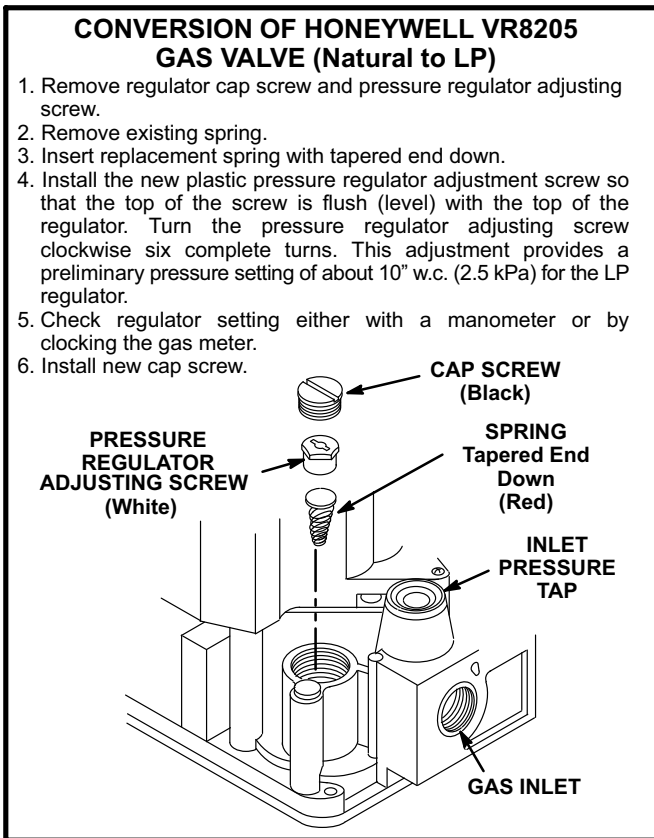
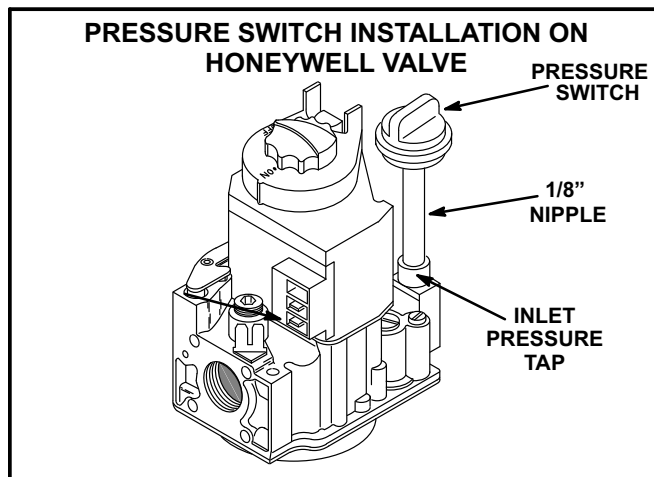

FIGURE 2
FIGURE 6
- 5 - Install gas valve conversion kit. Refer to manufacturer's instruction packed in valve conversion kit. See figures 2, 3, or 4.
- Remove cap screw from inlet pressure tap on gas valve. Apply pipe thread compound to threads of the 1/8" BIP nipple and screw the pressure switch/BIP nipple assembly into the inlet pressure tap on the gas valve. See figures 2 or 3 for gas valve inlet pressure tap location. Figures 6 and 7 show installed pressure switches.
- 2 - After gas line pressure has been checked and adjusted, check manifold pressure at the pressure tap on the outlet side of the gas valve. The correct manifold pressure for LP/propane gas is shown in table 1. Refer to figures 2 , 3, or 4 for gas manifold pressure adjustment screw location.